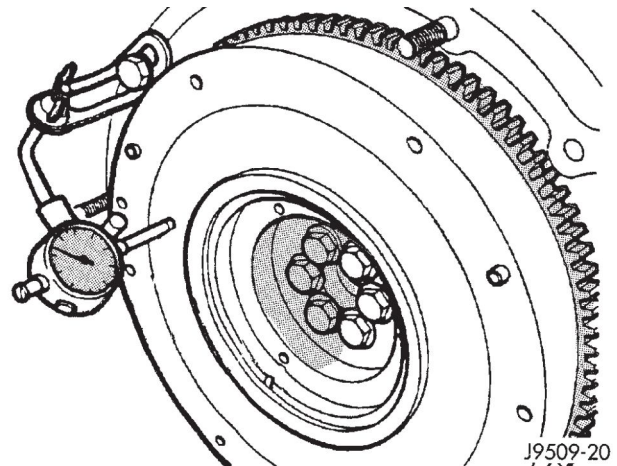

Fig. 14 Measuring Crankshaft End Play
- (1) Attach dial indicator to engine block (Fig. 14).
- (2) Move crankshaft toward front of engine and zero indicator.
- (3) Move crankshaft toward the rear of engine and record measurement.